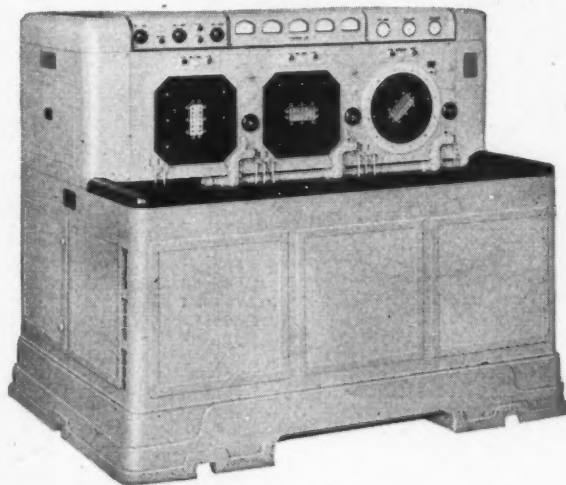
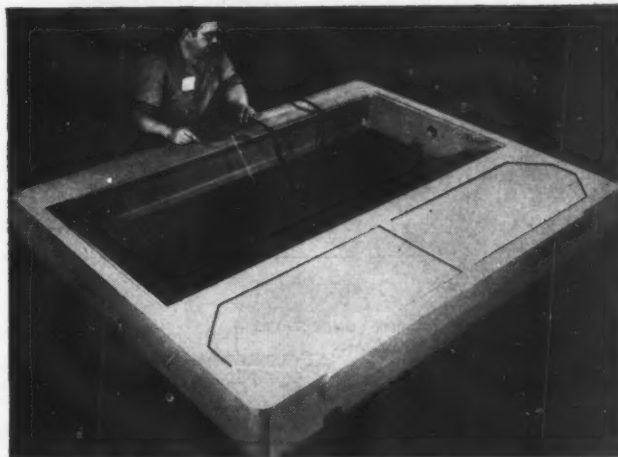

Fig. 1. Completed TOCCO Induction Heating Machine with former base.
Fig. 2. The new welded steel base for 150 KW machine shown in Fig. 1.
2. In the manufacture of our standard TOCCO machines of all sizes and types, we use welded design for many parts to provide maximum rigidity and strength, lighter weight and lower cost. It also enables us to continually improve these parts because we are not restricted by patterns. The cabinet frame of the 150 KW TOCCO unit shown in Fig. 1 is an example of the larger welded steel parts which we have used for some time.
Recently we have also changed the base of the machine shown in Fig. 1 from cast iron to welded steel. The cast iron base weighed 3175 lbs. compared to 1180 lbs. for the welded steel base shown in Fig. 2. It was necessary to machine the top of the cast base to secure level mounting for the motor generator set. The welded base is